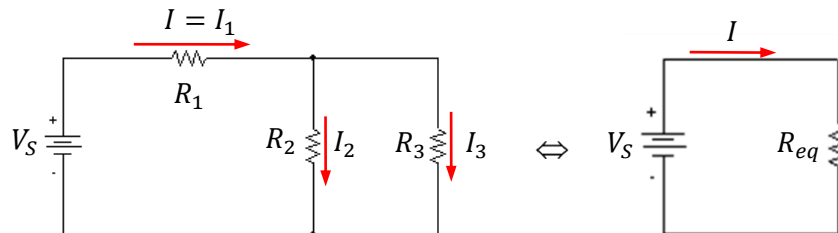

Figure 6
The entire series-parallel circuit could therefore be imagined to be replaced by the equivalent circuit shown below in Figure 6, with R_{eq} being given by Eq. (4).